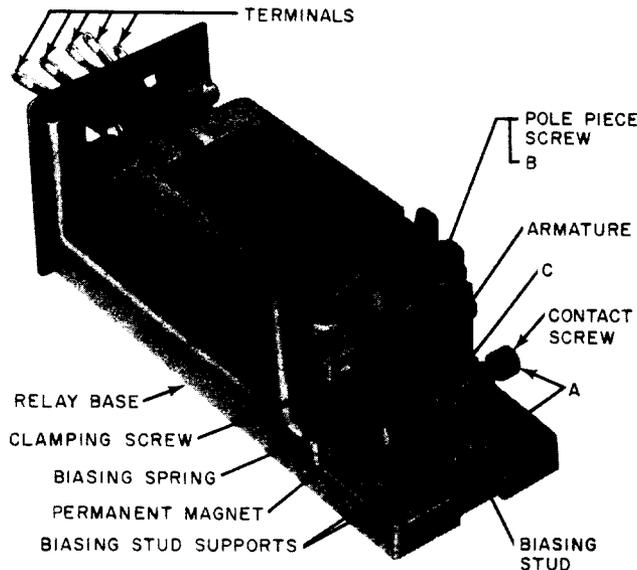
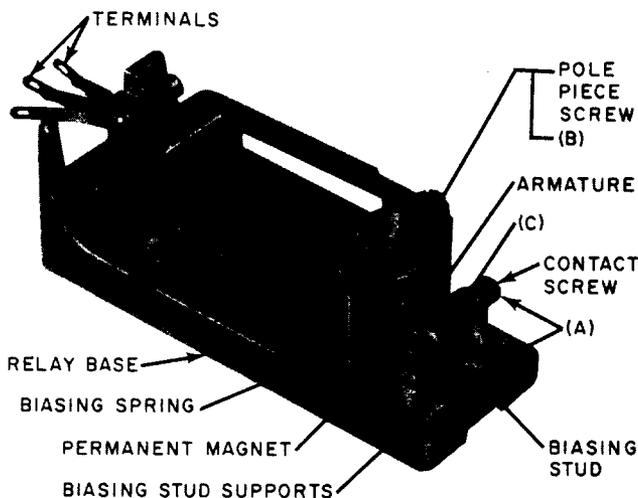

Fig. 5—280-Type Relay (Old Type)
Fig. 6—280-Type Relay (New Type)
***2.09 Tightness of Contact Screws and Biasing Stud:** Fig. 5(a) and Fig. 6(a)—Contact screws and biasing stud shall be sufficiently tight
2.11 **Contact Travel:** Fig. 5(C) and Fig. 6(A)—The contact travel shall be
*2.10 **Tightness of Pole-Piece Screws:** Fig. 5(B)—Pole-piece screws shall be held sufficiently tight in the pole piece to hold them in